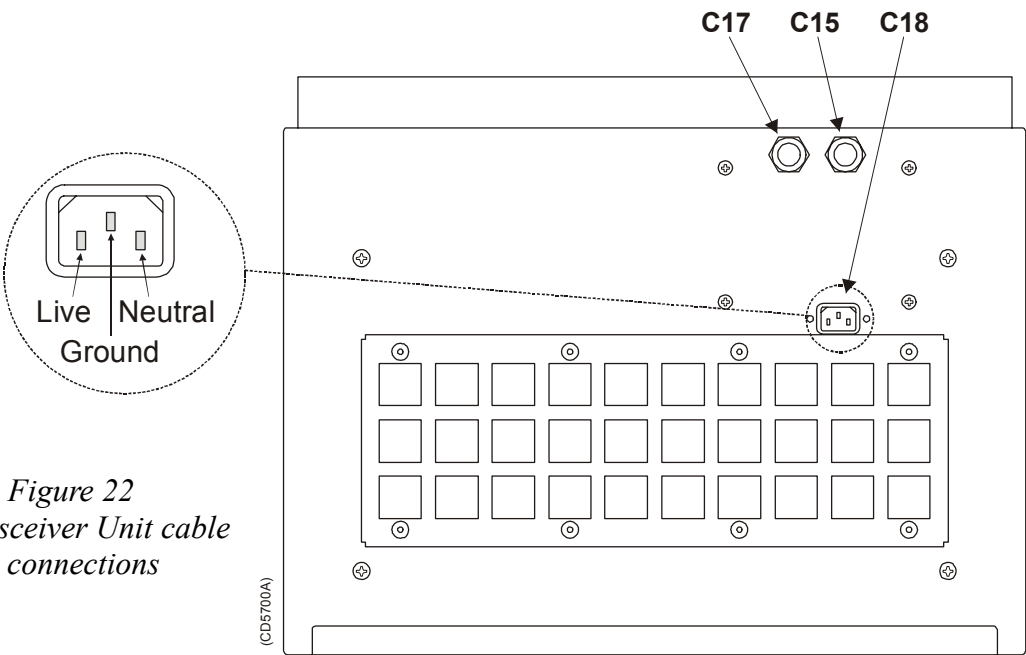

Figure 22
→ The bottom of the Transceiver Unit is shown in figure 22.
→ *The cable glands at the bottom of the Transceiver Unit are shown on figure 22 on page 67.*
- *For connection of the mains cable, refer to figure 22 on page 67.*